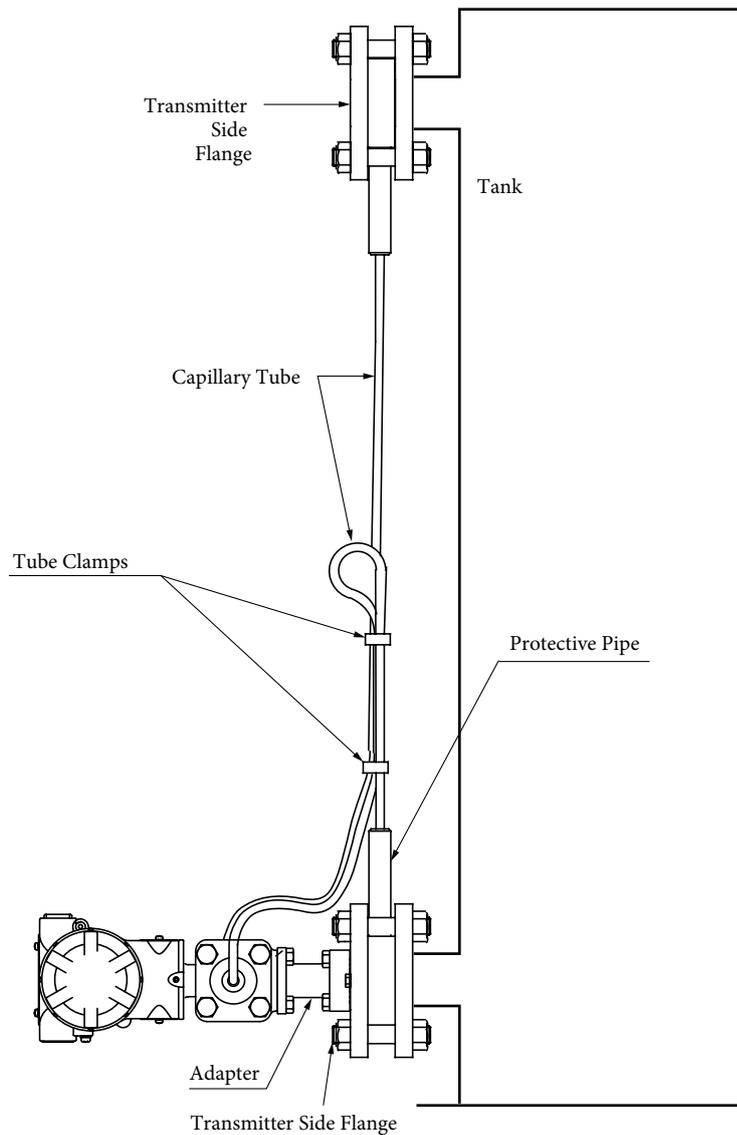

Figure 2-29. Mounting the Tube Clamps
(6) Mount the other transmitter-side flange onto the process-side flange
Mount the remaining transmitter-side on the process-side flange (see Figure 2-29 and (3), (4)).